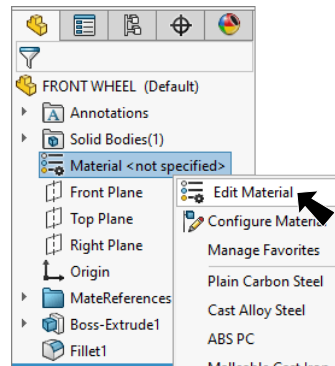

Fig. 10
Step 1. **Right click Material**  in the Feature Manager and click **Edit Material**, Fig. 10.